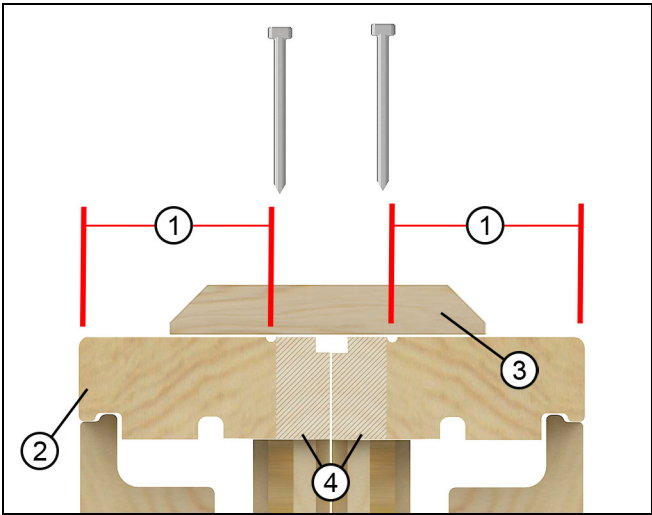

Figure 49
1. Install mullion trim after interior trim or casing is applied. Be sure to use nails and staples that are no longer than 3/4" (19). Place fasteners at least 1 3/16" (29) from the edge of interior jamb liner. See Figure 49.